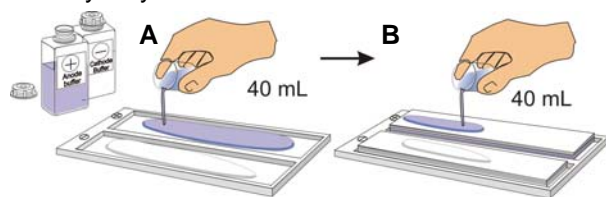

Fig. 1
1. Apply 40 mL of cathode electrode buffer to the a stack of 4 electrode wicks in the PaperPool. Repeat the operation using the anode buffer using a separate stack of 4 wicks (fig. 1). Leave the wicks for at least 10 mins so that they fully absorb the buffer.